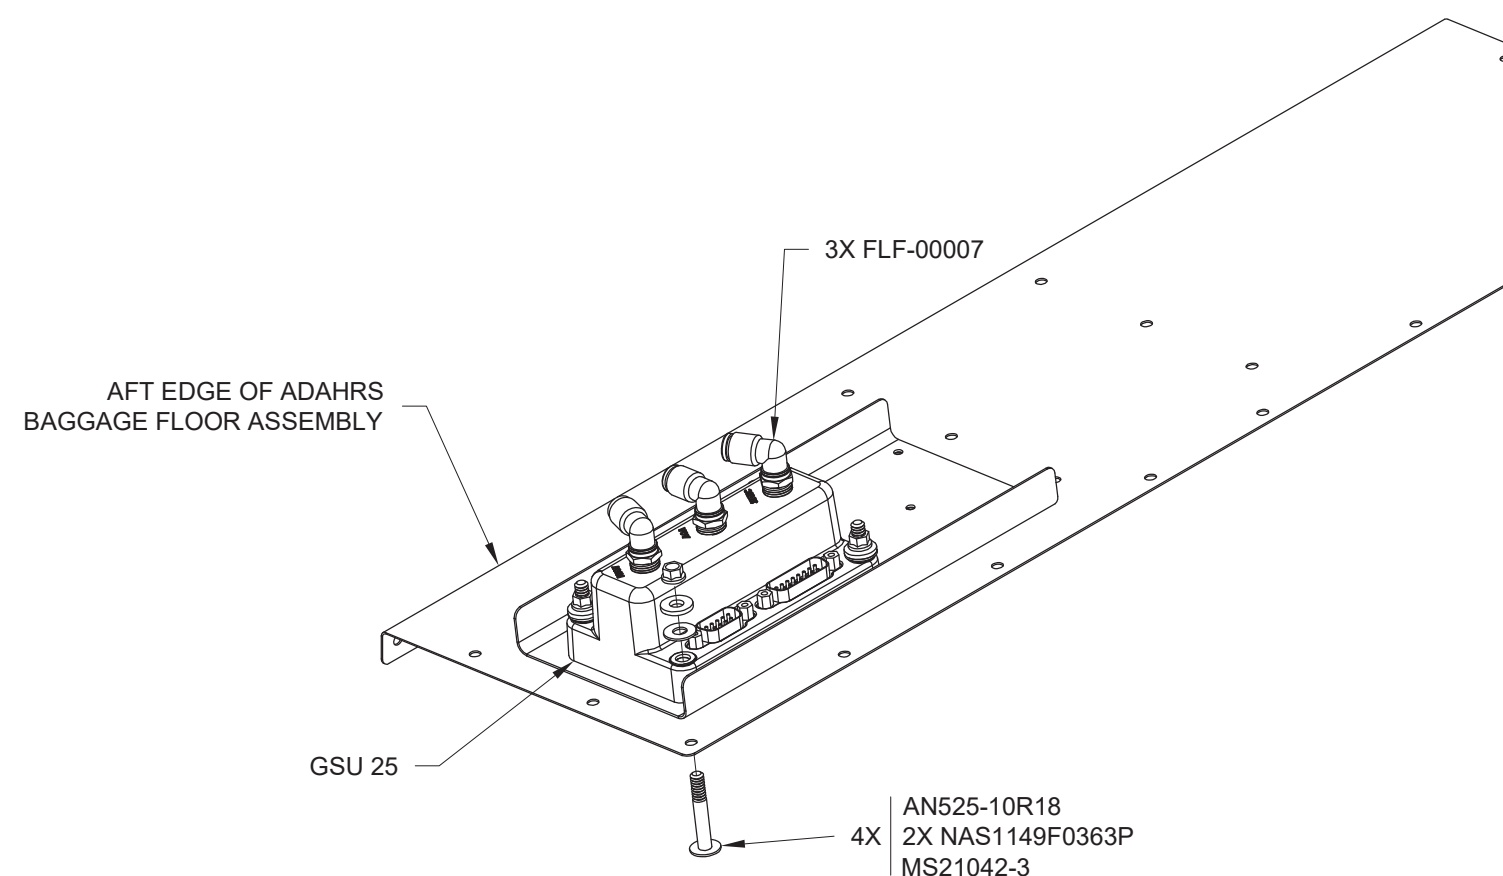

FIGURE 2: INSTALLING THE ADAHRS
Step 2: Rivet the ES-00301 to the F-01207B-1 as shown in Figure 1 and Figure 2, using the hardware called out in Figure 1.